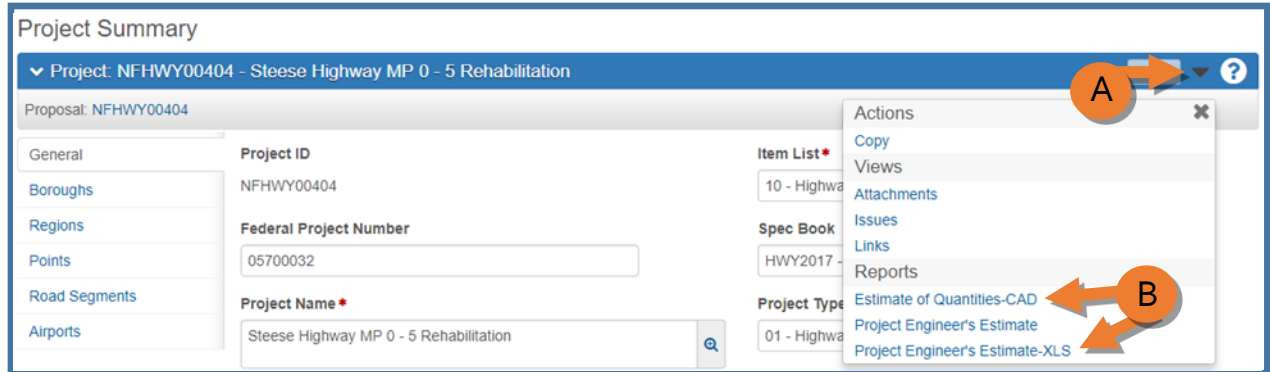

Figure 3.39
1. From the Project Overview component on the dashboard, search for and select your project. The Project Summary component will appear (*Figure 3.39*).
2. (A) Expand the Project Summary component **action menu** on the right side of the header.
3. (B) Select **Project Engineer's Estimate-XLS** or **Estimate of Quantities-CAD**.